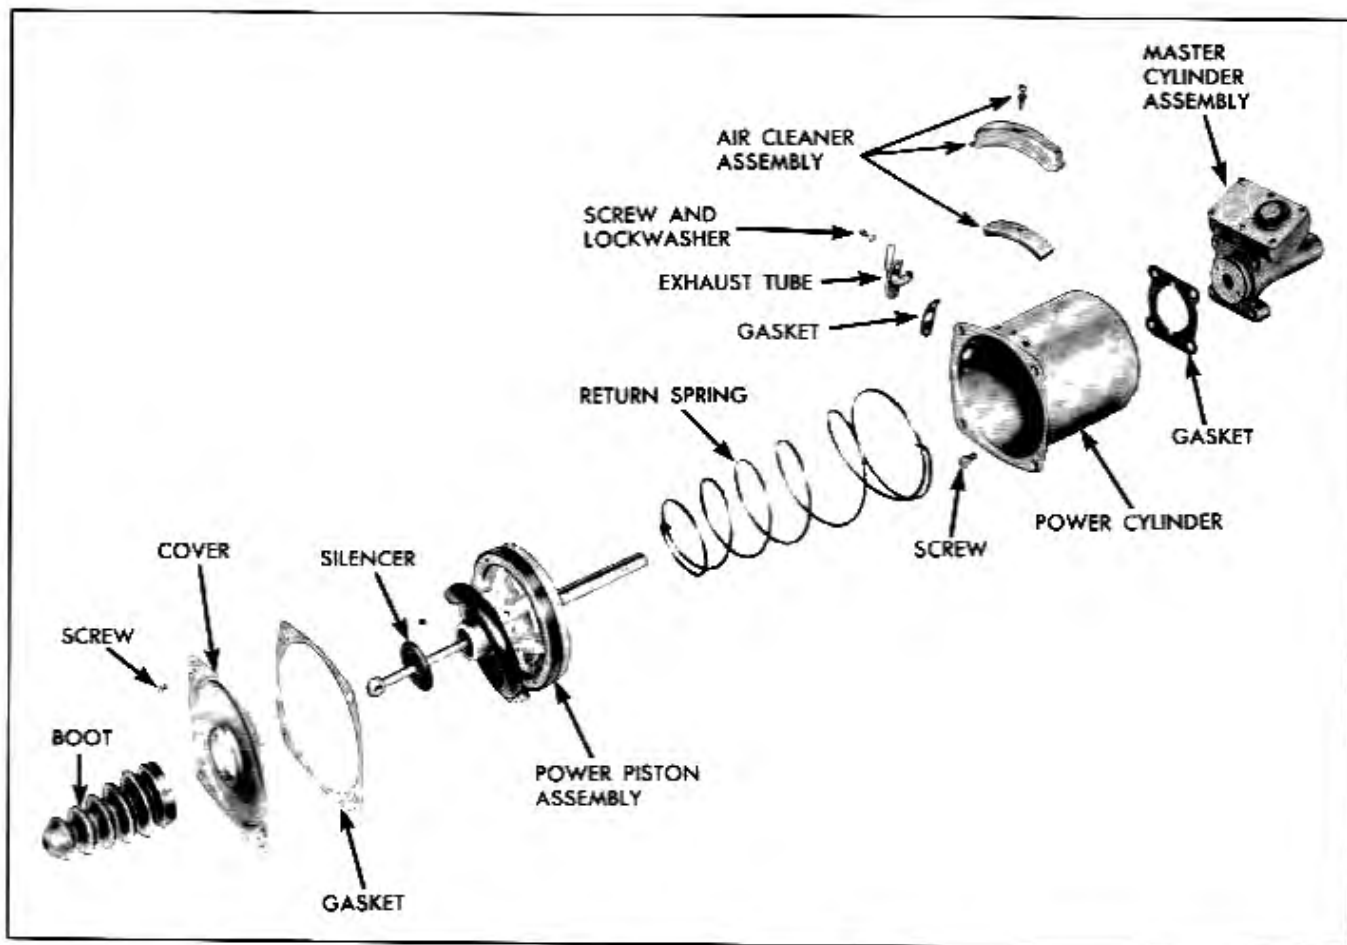

Fig. 5-41 Moraine Power Brake Unit—Exploded View
3. Remove boot and felt silencer from push rod end of power brake unit (Fig. 5-41).
DISASSEMBLY OF AIR CLEANER UNIT (FIG. 5-41)